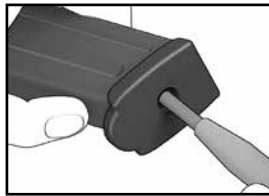

Figure 18
1. Using a blunt, pointed instrument, depress the locking detent located in the floorplate and hold it there (see Figure 18).